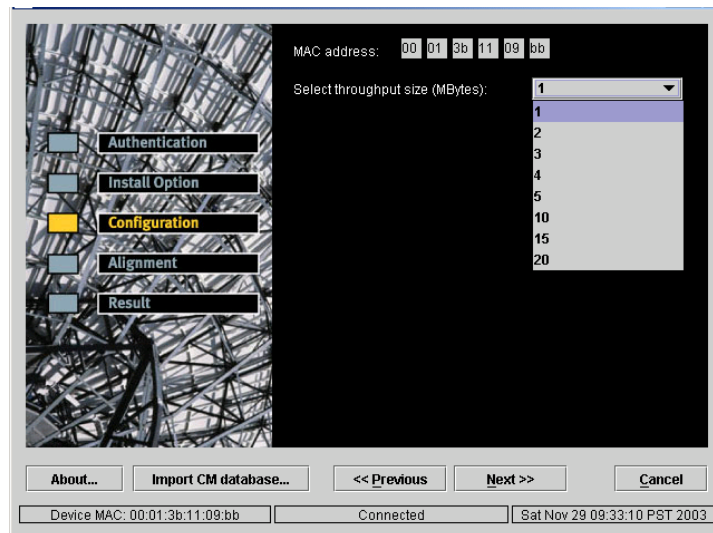

Figure 5-19 Test Configuration Window
3. The Test Configuration window shown in *Figure 5-19* will be displayed. Choose the number of megabytes to be transferred; then click on the **Next>>** button.